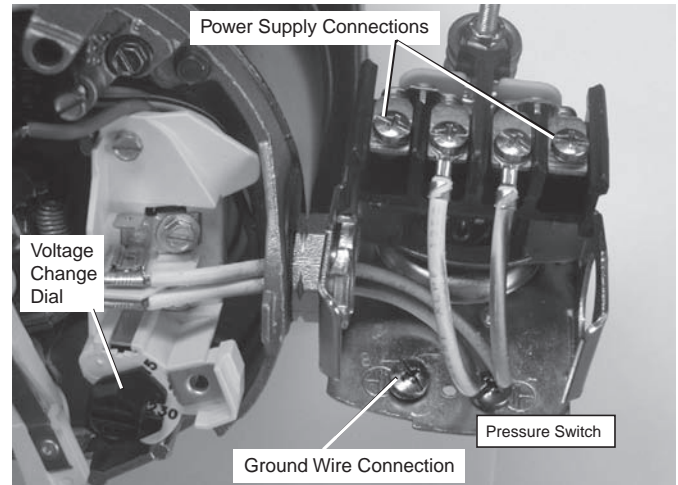

Figure 8: Voltage set to 230 volts, Dial Type
3. Attach the incoming power leads to the two outer screws on the pressure switch as shown in Figure 8.
4. Attach the ground wire to the grounding connections as shown in Figure 8.